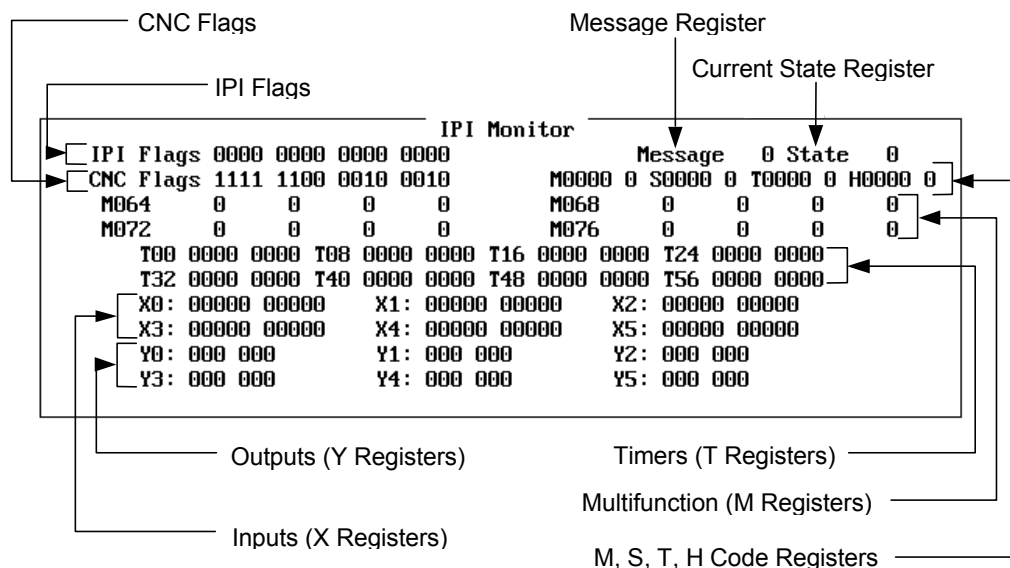
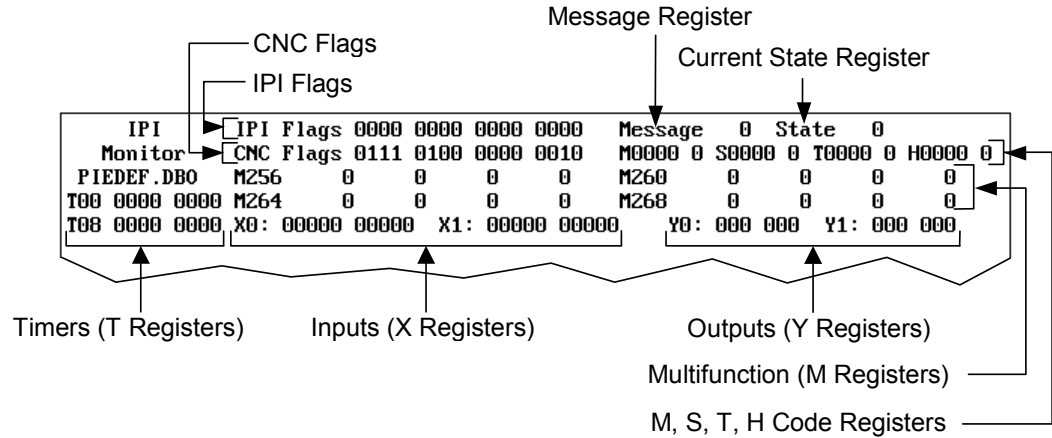

Figure 2-3, 4200T, 5300M/MK, 5400M/MK, and 5500M IPI Monitor Screen
Figure 2-4, 3300M/MK IPI Monitor Screen
2. Press **ENTER** to display the **IPI Monitor** screen. Refer to either **Figure 2-3** or Figure 2-4, 3300M/MK IPI Monitor Screen.